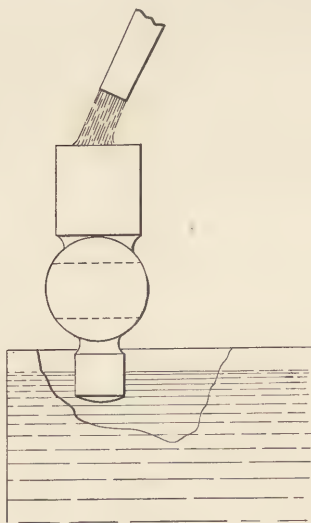

Fig. 26.
**Tempering a Hammer Head.**—In tempering a hammer you will notice that the outside of the face is generally hard and will chip off, while the center is soft. You can overcome this by tempering as shown in Fig. 26. Pour a small stream of water directly on the center of the face of the hammer, and the whole face will be of uniform temper. An old teapot will answer nicely for the purpose.